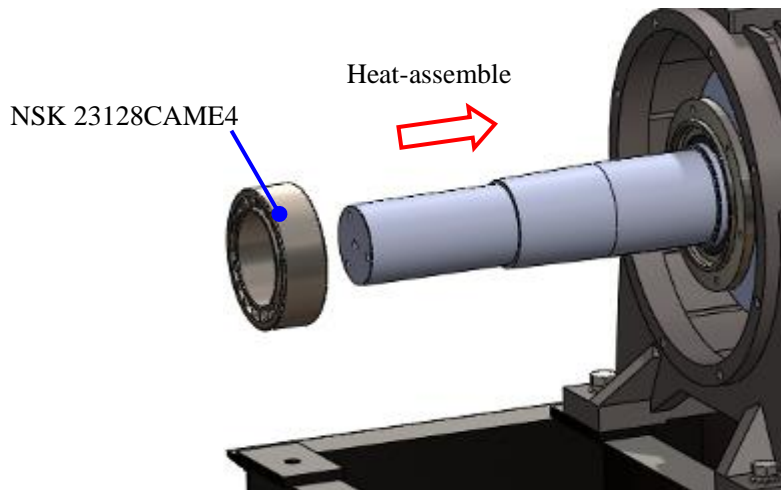

Figure 131: Install bearing
2. Heat the bearing (23128CAME4) to $80\pm 15^{\circ}\text{C}$ ($159\pm 59^{\circ}\text{F}$) with the bearing heater, then quickly install it on the main shaft. When the bearing has cooled to room temperature, fully pack the bearing with grease (OEM or Shell Gadus S3 V220 C) See Figure 131.